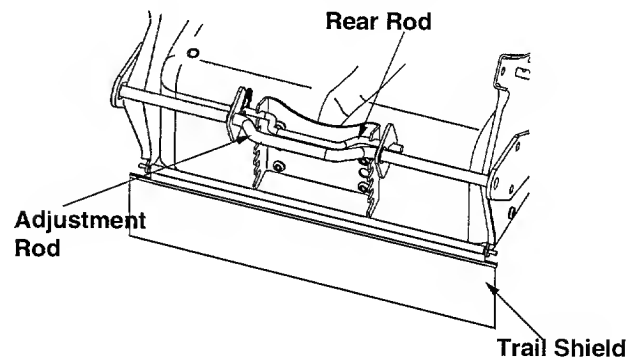

Figure 16
- Move rods upward or downward to any one of the six height positions and reinsert. See Figure 16..